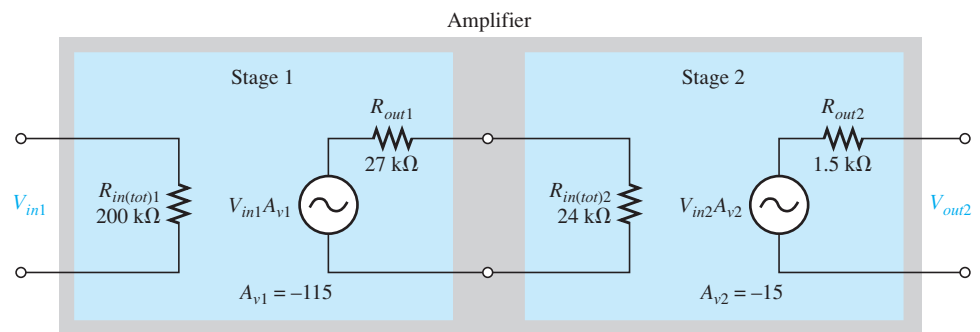

FIGURE 5-61
- For the two-stage amplifier modeled in Figure 5-61, determine the ordinary gain and the decibel voltage gain.
- Assume a $1.0\text{ k}\Omega$ load is connected to the amplifier modeled in Figure 5-61. What is the new gain?